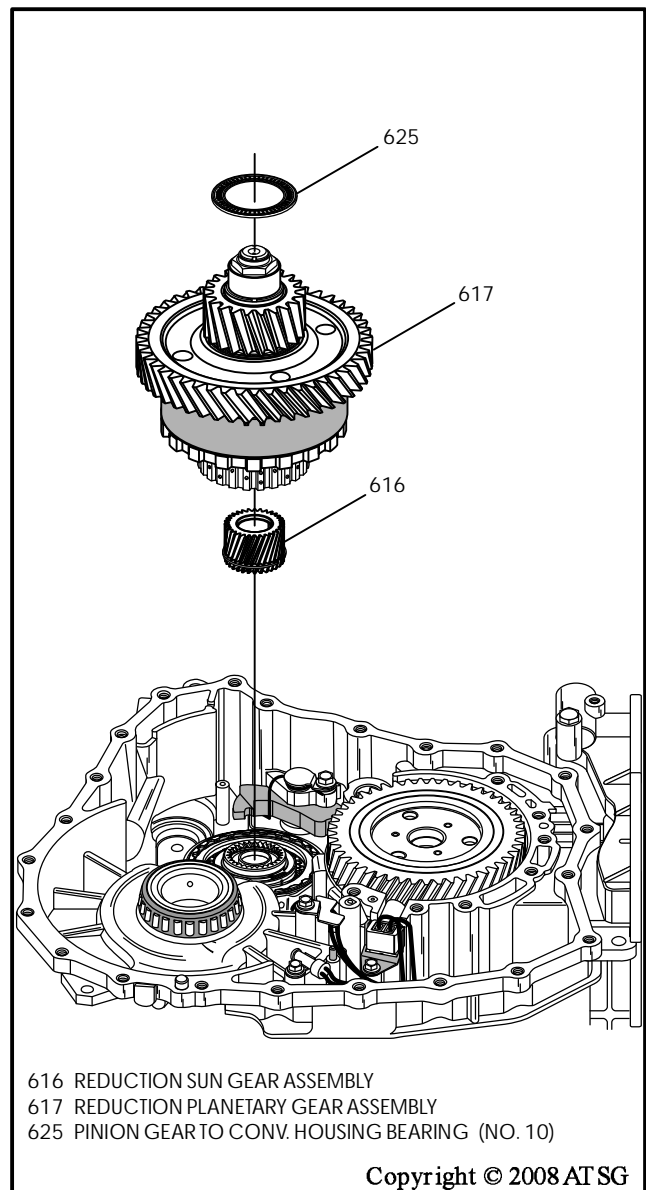

Figure 221
23. Install the reduction sun gear, as shown in Figure 221.
24. Install the reduction planetary gear assembly, as shown in Figure 221, by rotating back and forth until the direct clutch hub has engaged in all direct clutch frictions.
25. Ensure that the number 10 thrust bearing (625) is still in place on the pinion gear.